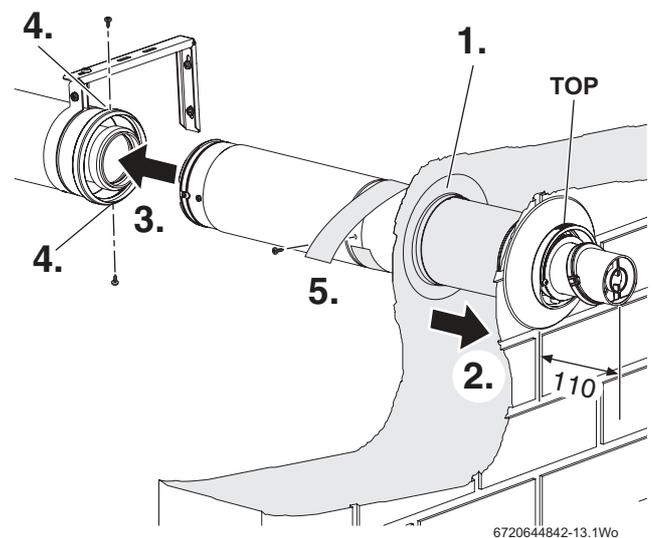

Fig. 27 Extended flue
1. Refer to figure 27 and slide the inner wall seal onto the terminal.